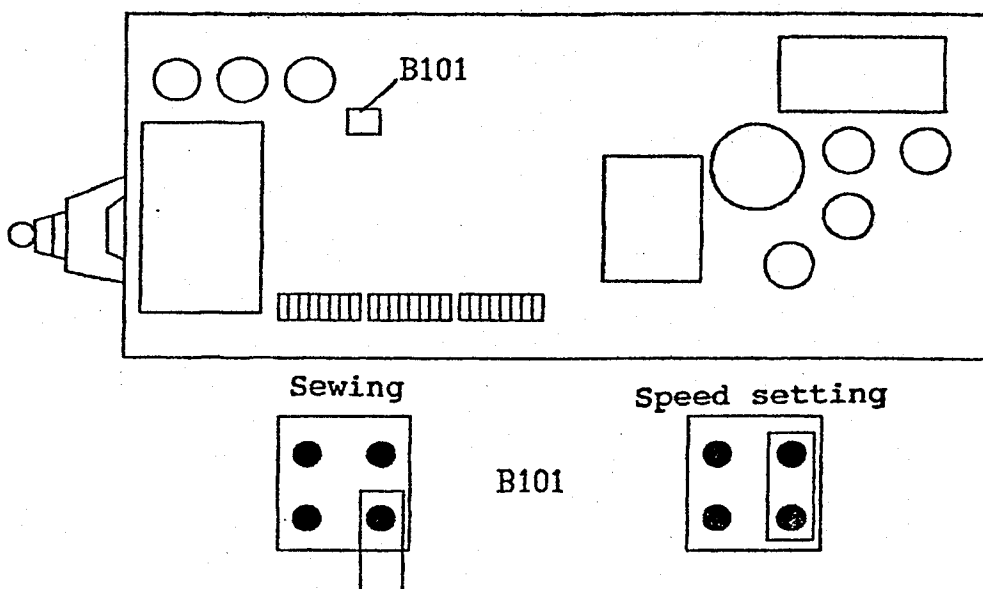

Fig. 7:
- Slip on jumper B101 according to fig. 7 page 19
- Slip on jumper B101 according to fig. 7